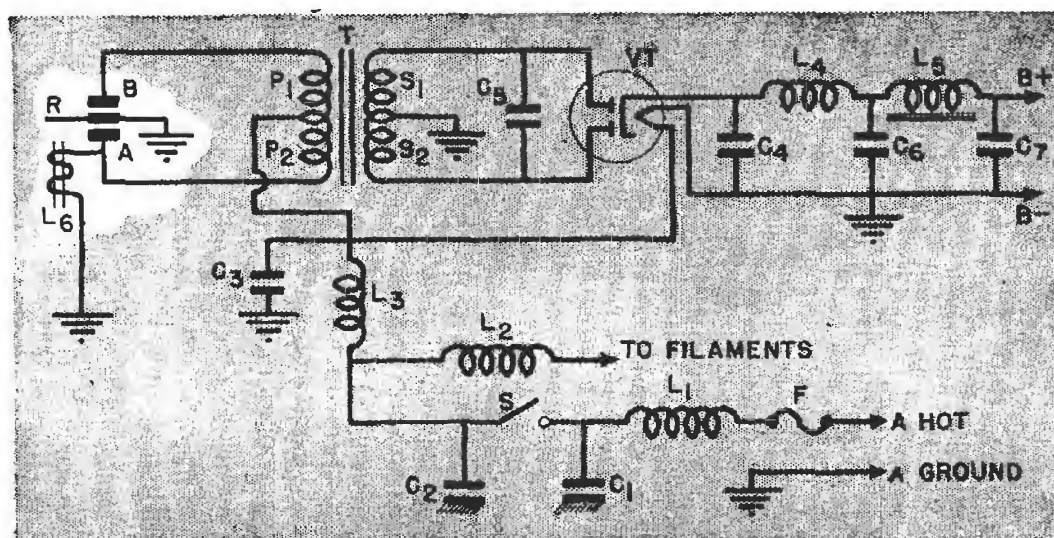

FIG. 30. A typical non-synchronous vibrator type power supply.
Non-Synchronous Vibrator. The circuit of a typical vibrator system is shown in Fig. 30. When switch S is closed, the circuit is completed from the storage battery to the tube filaments through choke L_2 . (Tubes having 6.3-volt filaments are used, with the filaments in parallel.) The vibrator supply and rectifier tube filament current flows through L_3 .
33) is similar to that described for Fig. 30. Current flows through choke L_1 , through primary winding P_2 , and through coil L_3 . Coil L_3 attracts the vibrating reed R . When the moving reed touches the contact going to 4, coil L_3 is short-circuited and the reed flies back to the other side.